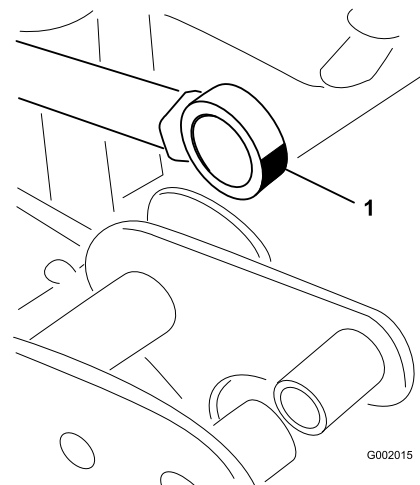

Figure 71
5. Swivel the rod-end bearing and apply grease into the bearing (Figure 71).